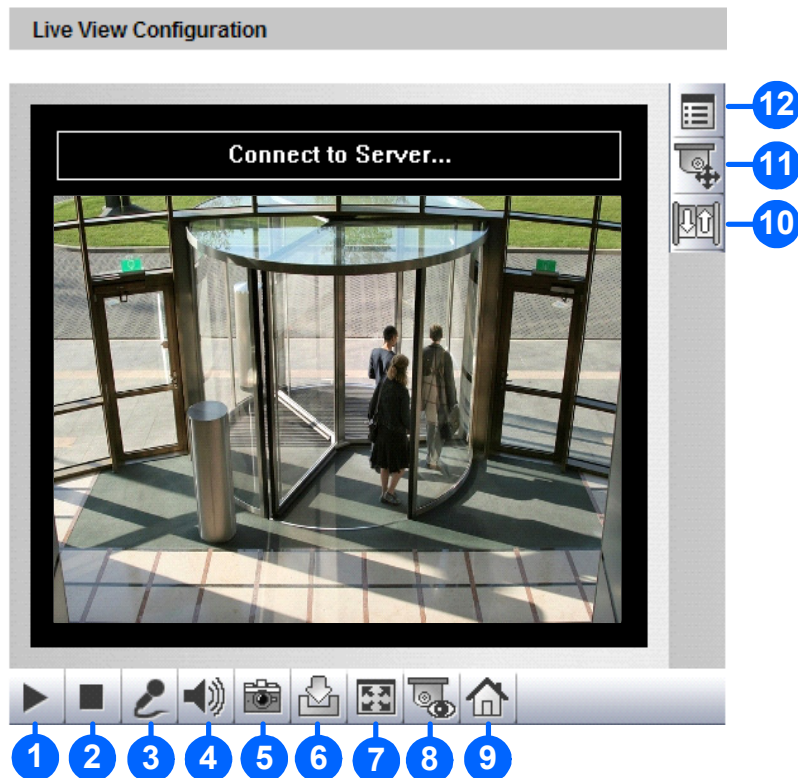

Figure 3-2
1. Click the **Snapshot** button (No. 5, Figure 3-2). The Save As dialog box appears.
1. Click the **File Save** button (No. 6, Figure 3-2). The Save As dialog box appears.
4. To stop recording, click the **Stop** button (No. 2, Figure 3-2).
To configure this function, click the **Show System Menu** button (No. 12, Figure 3-2), and select **Alarm Notify**. This dialog box appears.
Click the **Show System Menu** button (No. 12, Figure 3-2), and select **Video and Audio Configuration**.
You can upgrade the device firmware over the network. Click the **Show System Menu** button (No. 12, Figure 3-2), and select **Remote Config**. The Remote Config dialog box will appear.
To display the camera name on the image, click the **Show System Menu** button (No. 12, Figure 3-2), and select **Show Camera Name**.
To enhance the image quality of live video, click the **Show System Menu** button (No. 12, Figure 3-2), and select **Image Enhance**. This dialog box appears.
To open the PTZ Control Panel, click the **PTZ Control** button (No. 11, Figure 3-2) and select **PTZ Control Panel**.